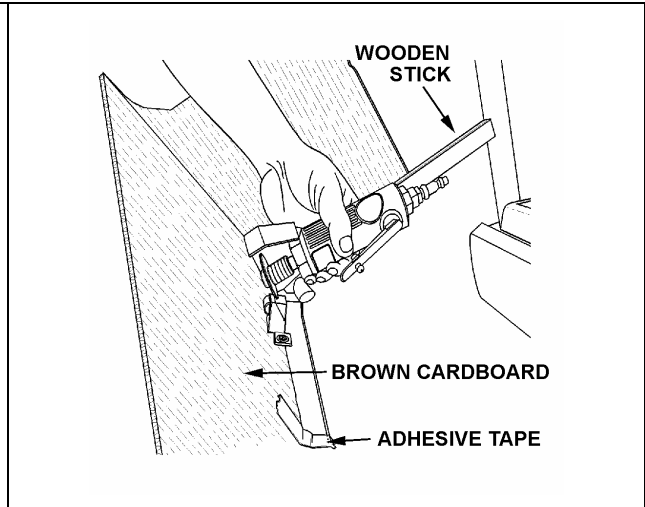

FIGURE 2 : WORKING SPACE PREPARATION
2. Open the window as per the instruction on the decal located on the release bar. Place two wooden sticks to hold the window open (figure 2).
4. Cut a small opening on the brown cardboard and place it around the stop (figure 2).